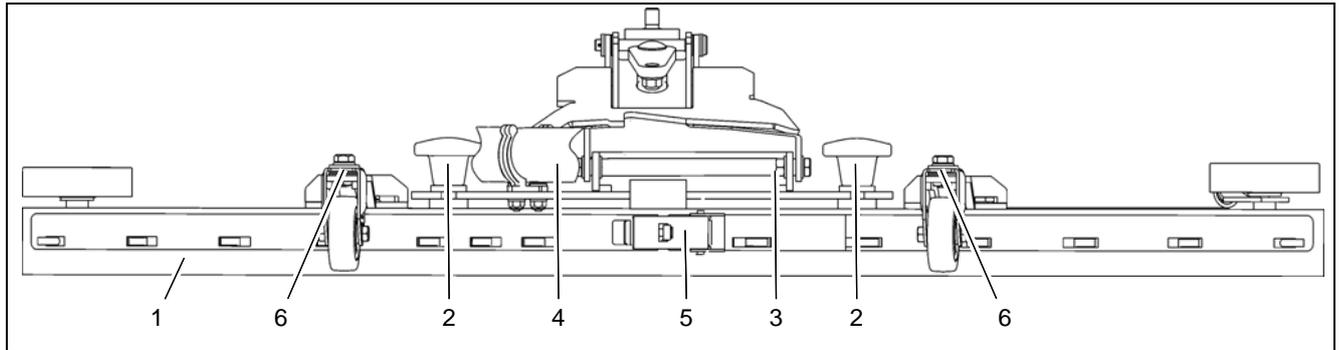

Fig.12
Check the squeegee (Fig. 12/1) daily and clean it as necessary. To clean it lift the squeegee out, pull off the suction hose (Fig. 12/4), loosen the two star-shaped knobs (Fig. 12/2) and remove the squeegee.
Check the inner and outer sealing strips on the squeegee (Fig. 12/1) weekly for signs of wear. The sealing strips can be used fourfold by turning them.
3. Unlock the fastening device (Fig. 12/5) and remove the outer sealing strip. Turn the sealing strip or install a new one, as necessary. Change the inner sealing strip in the same way.